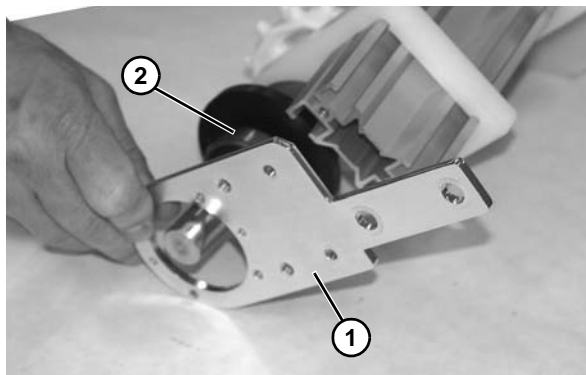

Figure 54
10. Remove drive backing plate (Figure 54, item 1) from assembly.
11. Remove drive spindle assembly (Figure 54, item 2) from assembly.